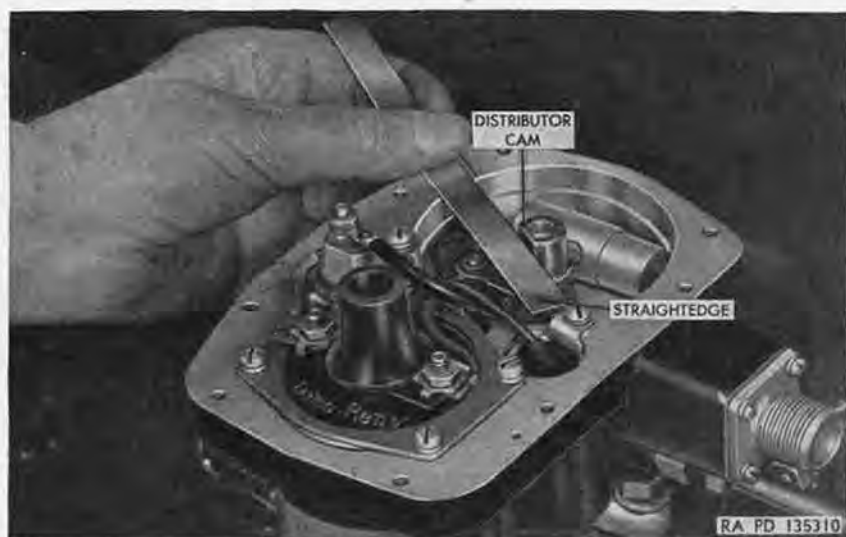

Figure 179. Positioning distributor breaker cam for distributor installation.
- (b) Remove cover and rotor from distributor and turn distributor shaft until lobe of cam trailing flat on cam assembly opens breaker points. Place a straightedge (fig. 179) against this flat and turn shaft until straightedge crosses edge of distributor housing between scribed marks.
- (c) Install new mounting gasket on top of distributor drive housing (N) and position distributor and coil assembly (D) on housing, engaging coupling at lower end of distributor shaft with coupling on upper end of drive shaft inside housing. Position the two distributor mounting clamps (R) on top of drive housing, and install two cap screws (T) and lockwashers. Tighten cap screws.
- (d) Adjust breaker point gap (a(2) above).